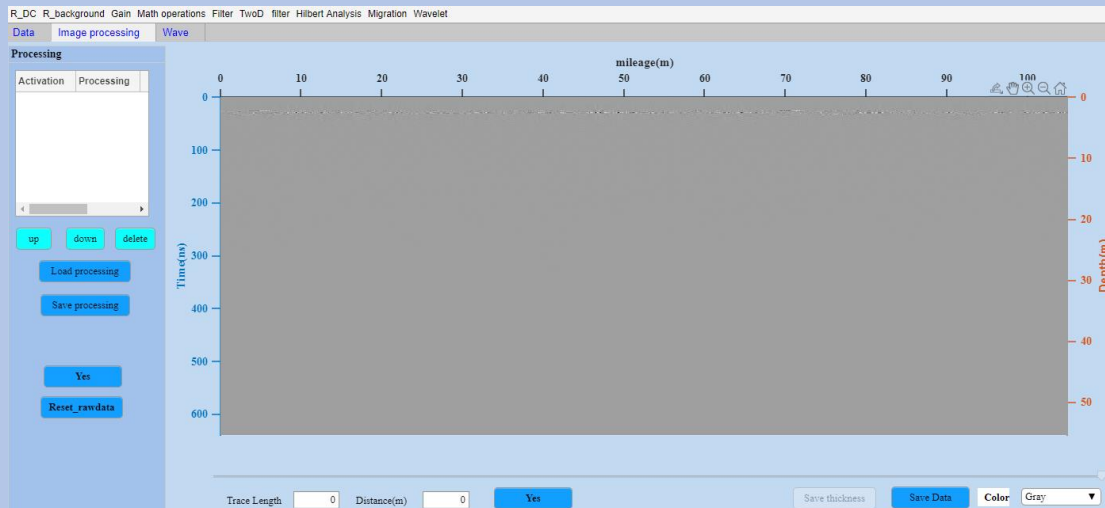

Figure 8.16 Case3 raw data
(3) Switching to the Image Processing module, we can observe the raw data as shown in Figure 8-16.